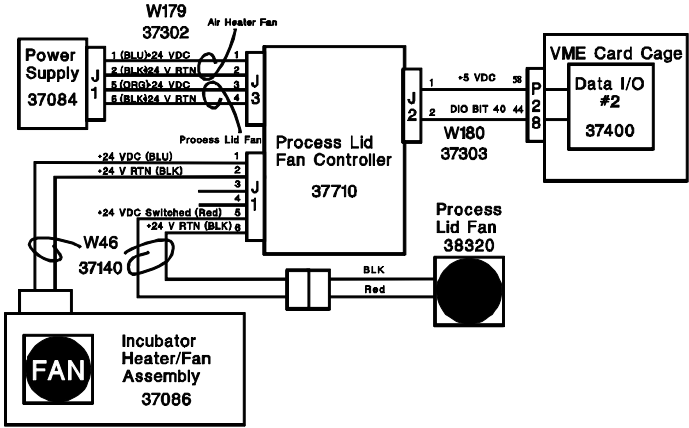

Figure 2
4. Check that the Process Area Cover Fan is on. Check that Process Area Air Heater Fan is on. Air should be coming out from under the Process Carousel. If air is not moving, check Power Supply Connector J1 and Fan Controller Board J1 and J3. Refer to Figure 2 as required.